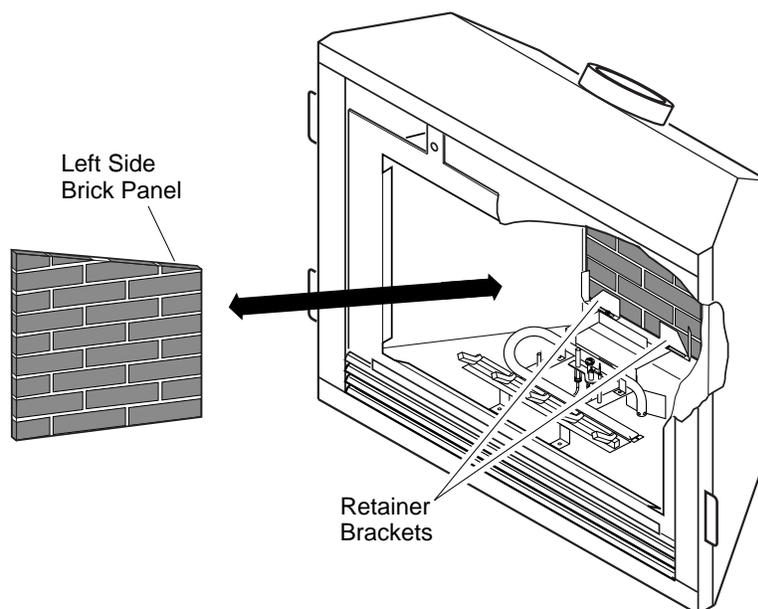

Figure 50 - Installing Left Side Brick Panel
5. Install left side brick panel by sliding it between the grate and the side of the firebox (see Figure 50).